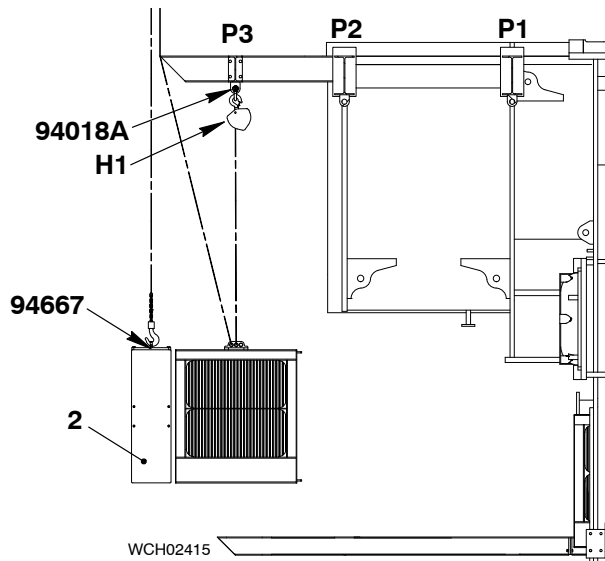

Fig. 5
- 15) Attach the manual ratchet (H1, Fig. 5) and the shackle (94018A) to the point (P3).